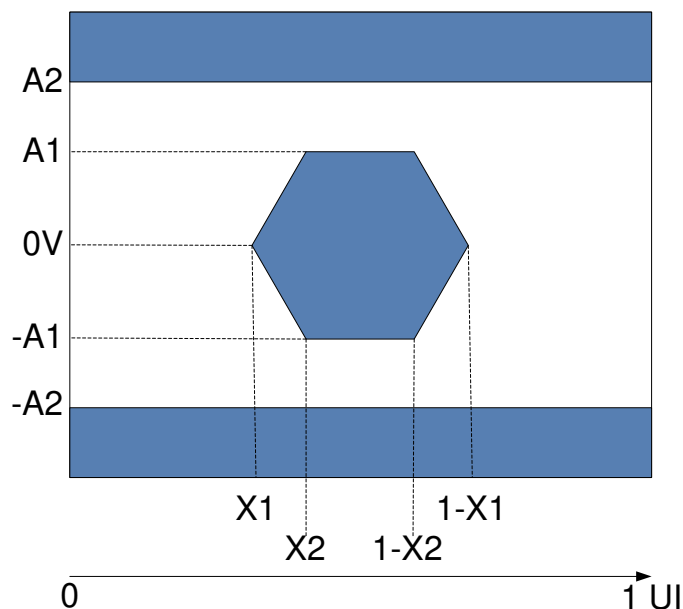

图 6-12. HSSI Eye Characteristics
(1) All power supply connections are required to operate the DMD: VDD, VDDA, VOFFSET, VBIAS, and VRESET. All VSS connections are required to operate the DMD.
(2) All voltage values are with respect to the ground pins (VSS).
(3) To prevent excess current, the supply voltage delta | VDDA - VDD | must be less than specified limit.
(4) To prevent excess current, the supply voltage delta | VBIAS - VOFFSET | must be less than specified limit.
(5) Supply power dissipation based on 3 global resets in 200 μs.
(6) LVC MOS input specifications are for pin DMD\_DEN\_ARSTZ.
(7) LVC MOS output specification is for pins LS\_RDATA\_A and LS\_RDATA\_B.
(8) Refer to Figure 6-12 (1e-12 BER).
(9) Defined in Recommended Operation Conditions.